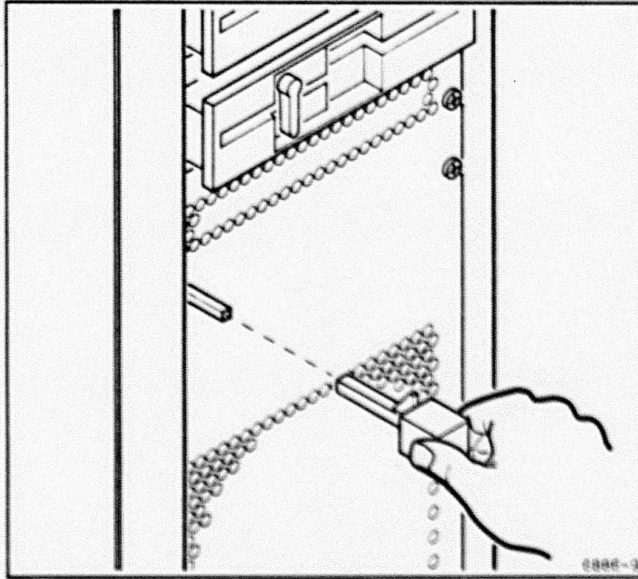

Figure 2. Removing the Power Switch Knob and Shaft.
1. Pull off the power switch knob as shown in Figure 2 and set it aside.